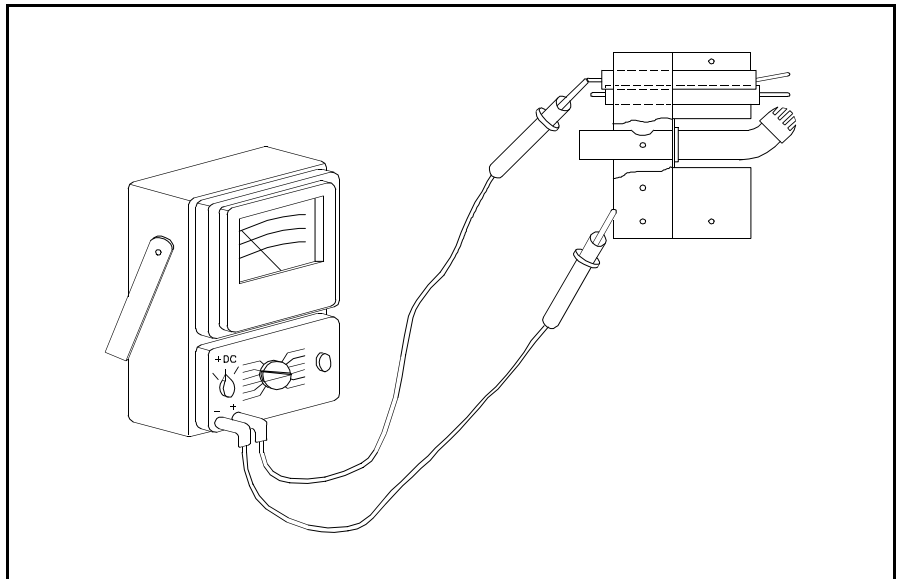

Figure 5.35 Electrode Grounding Check
- 31. Check the Sense and Ignition electrodes shown in Figure 5.35 for a short to ground.